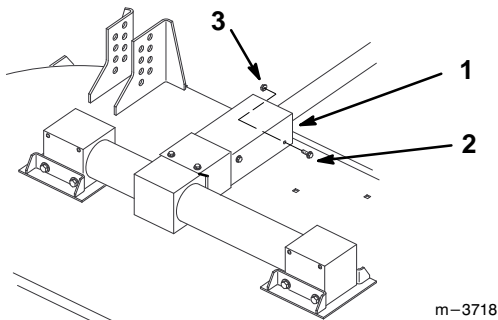

Figure 4
10. Remove 5/16-18 x 7/8" (11 mm) shoulder bolt and 5/16" flange nut holding PTO cover down (Fig. 4).